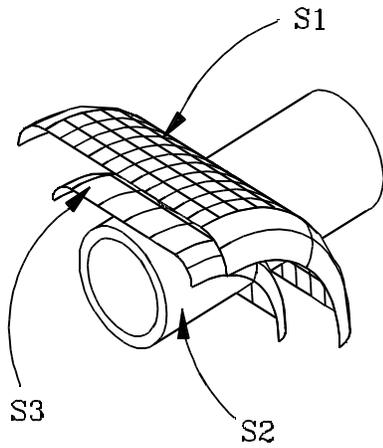

Figure 24:
51. Click on surfaces S1, S2, and S3 as shown in Figure 24, to unselect the outside surface of the cylinder, the inside wall, and the outside wall. These are the parts that you want to keep.